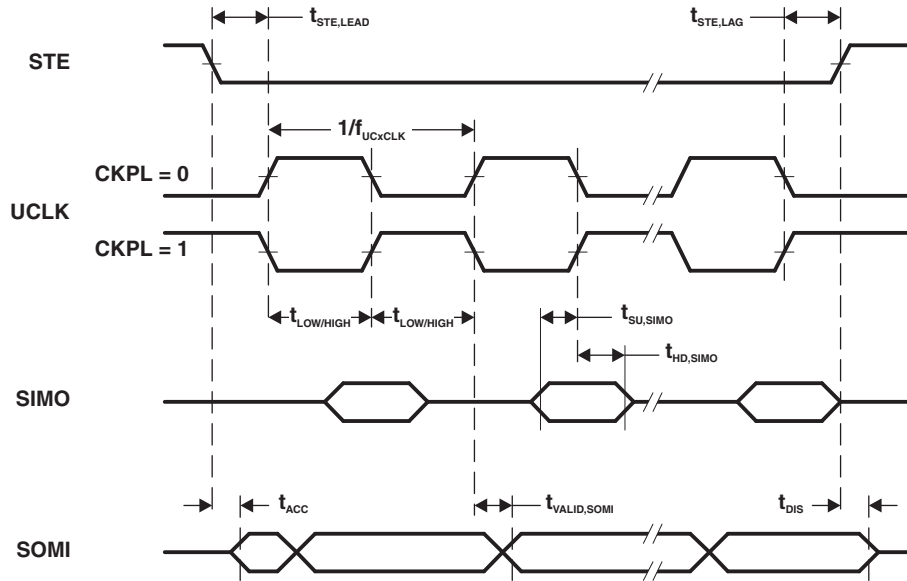

Figure 5-11. SPI Slave Mode, CKPH = 0
(1)  $f_{UCxCLK} = 1/2t_{LO/HI}$  with  $t_{LO/HI} \geq \max(t_{VALID,MO(Master)} + t_{SU,SI(eUSCI)}, t_{SU,MI(Master)} + t_{VALID,SO(eUSCI)})$ .For the master parameters  $t_{SU,MI(Master)}$  and  $t_{VALID,MO(Master)}$  refer to the SPI parameters of the attached slave.(2) Specifies the time to drive the next valid data to the SOMI output after the output changing UCLK clock edge. Refer to the timing diagrams in Figure 5-11 and Figure 5-12.(3) Specifies how long data on the SOMI output is valid after the output changing UCLK clock edge. Refer to the timing diagrams in Figure 5-11 and Figure 5-12.